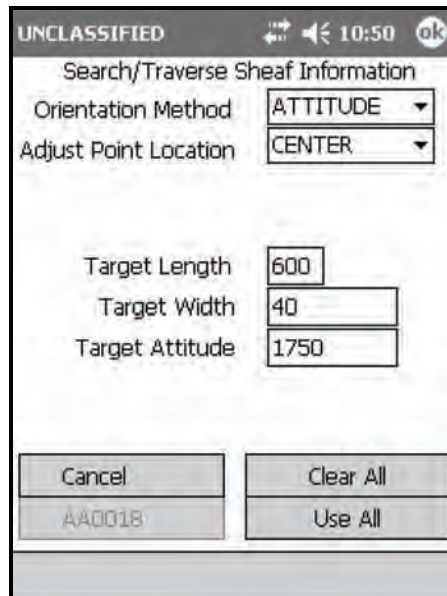

Figure 18-90. Search and Traverse Sheaf Information screen.
- (8) In the Sheaf field, change the sheaf to SRCH/TRAV.
- (9) Select S&T INFO. The Search/Traverse Sheaf Information screen displays. The Search/Traverse Sheaf Information screen (Figure 18-90) enables the FDC operator to define the target attitude, the location of the adjusting point, and the size of the target area.